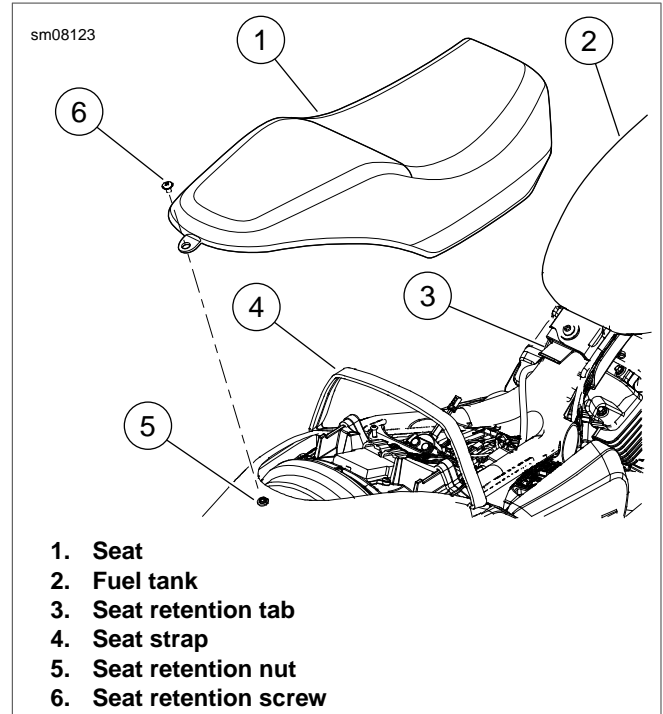

Figure 52. Seat Removal
1. See Figure 52. Remove seat retention screw (6).
2. Slide seat (1) rearward to release from seat retention tab (3).
3. Slide seat forward and above fuel tank (2).
4. Pull seat forward through seat strap (4).
1. See Figure 52. Insert rear of seat (1) through seat strap (4).
2. Slide seat forward and on to seat retention tab (3).
3. Install seat retention screw (6). Tighten to 2.3-4.5 Nm (20.3-40.0 in-lbs).